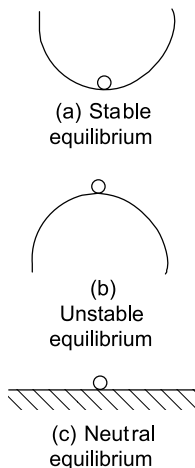

Figure 5.2
- (i) If an object is in **stable equilibrium** and it is slightly disturbed by pushing or pulling (i.e. a disturbing force is applied), the centre of gravity is raised and when the disturbing force is removed, the object returns to its original position. Thus a ball bearing in a hemispherical cup is in stable equilibrium, as shown in Figure 5.2(a).
- (ii) An object is in **unstable equilibrium** if, when a disturbing force is applied, the centre of gravity is lowered and the object moves away from its original position. Thus, a ball bearing balanced on top of a hemispherical cup is in unstable equilibrium, as shown in Figure 5.2(b).
- (iii) When an object in **neutral equilibrium** has a disturbing force applied, the centre of gravity remains at the same height and the object does not move when the disturbing force is removed. Thus, a ball bearing on a flat horizontal surface is in neutral equilibrium, as shown in Figure 5.2(c).